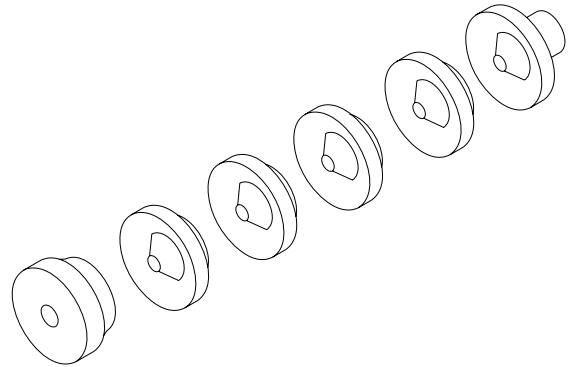

Figure 41: Chevron Seal Assembly
5. Unscrew needle/electrode from shaft and slide the male chevron adapter, the chevron seals and female chevron adapter off the shaft (see Figure 41).